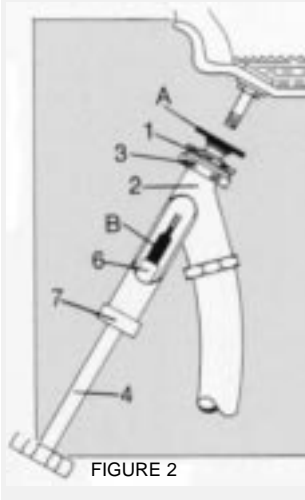

FIGURE 2
*To connect liquid fill core ejector to 1 piece style front tractor valves TR415, TR413 (figure 2),* screw adapter (A) and gasket to union (1). Insert large end of core remover (B) securely into chuck of core housing ejector (6). Screw adapter and union assembly on valve stem finger tight. Screw ejector union and adapter assembly to core ejector body making sure gasket is in place. The rest of the operation is the same as with the above 2 piece valve as described above.